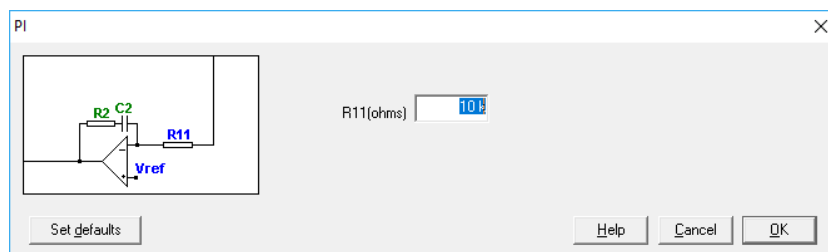

Figure 7: outer loop compensator
- Compensator: select a PI. See Figure 7.